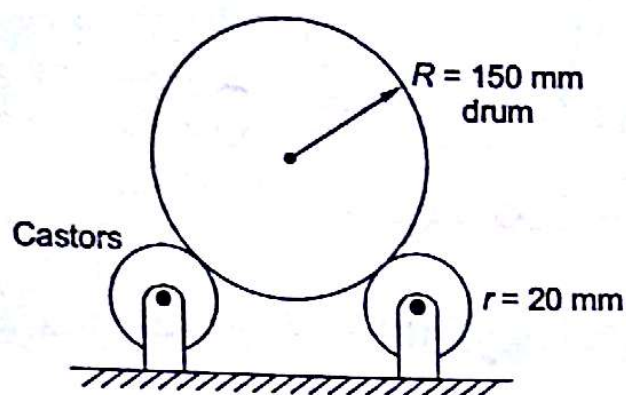

Fig. 13.14
13.4 A mixing drum of 150 mm outside radius rests on two castors, each of 20 mm radius as shown in Fig. 13.14. In a span of t seconds, the drum rotates by 15 revolutions, when its speed increased from 30 rpm to 50 rpm. Assuming no slip between drum and castors, determine (a) time interval, (b) angular acceleration of castors.